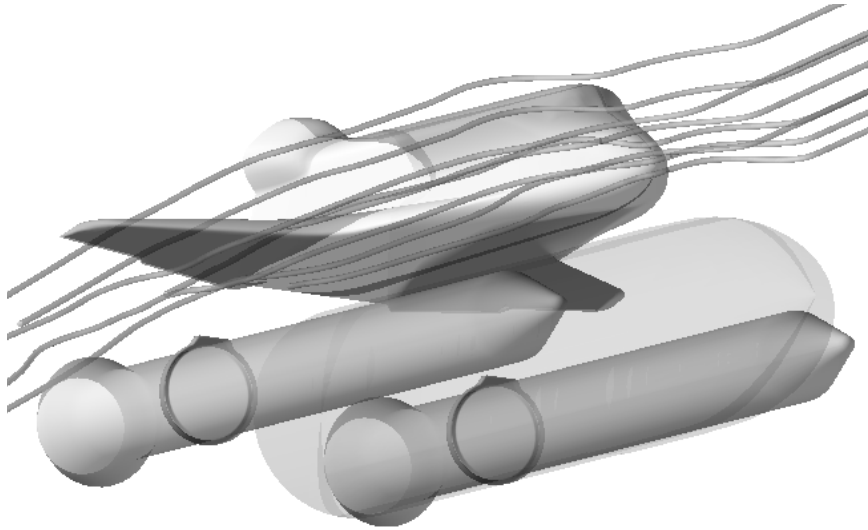

Figure 1-1. An example of a translucent plot created with Tecplot Version 9.0.
- **Translucency:** Pack more information into your plots by making your iso-surfaces, slices, streamtraces, and other zonal surfaces translucent. This is true translucency, not the pseudo-translucency of previous versions that was based on a form of dithering. An example is shown in Figure 1-1.